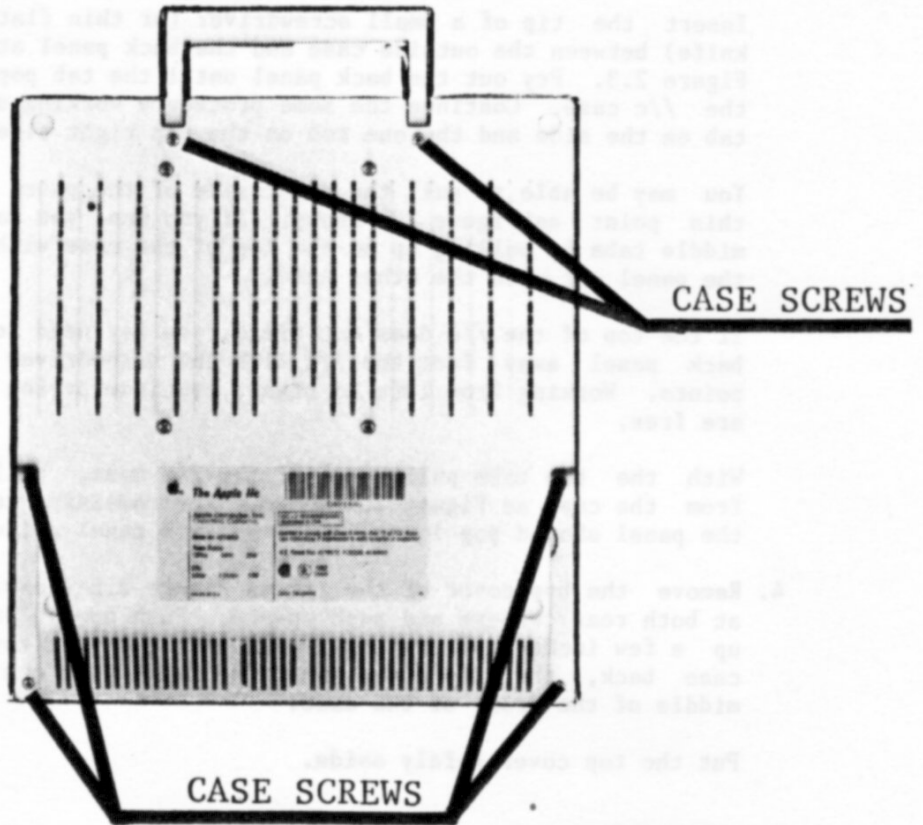

FIGURE 2.2
1. Remove the six screws identified in Figure 2.2 with a small/medium size Phillips screwdriver. These are the screws at the outside edges of the case. Do not remove the four inside screws; these hold the disk drive in place.